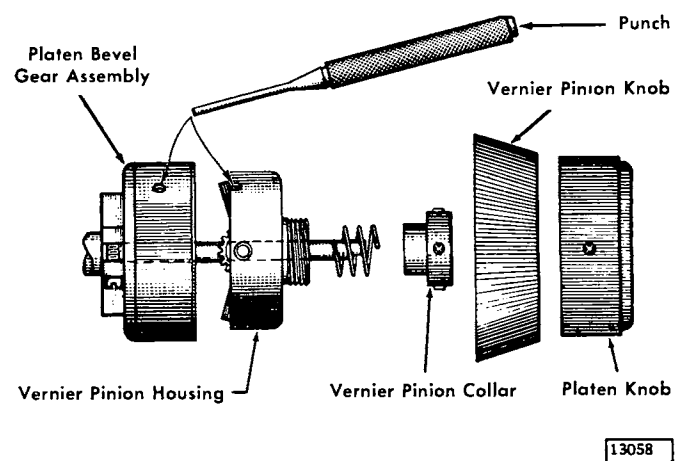

Figure 4-38. Carriage Vernier
1. Remove the locking screw which covers the setscrew in the platen knob (Figure 4-38).